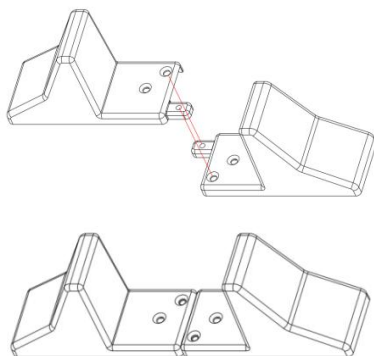

Fig.5-1 Support bases
Step 1: Take out the support bases from the accessories. Their appearances are shown in Fig.5-1.